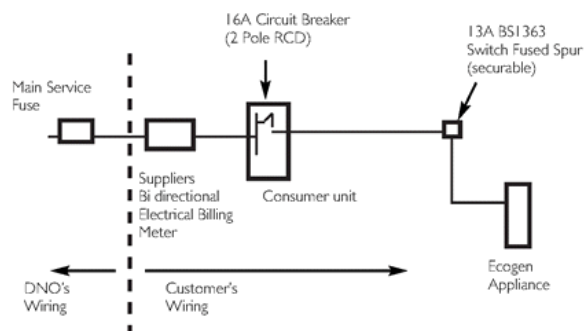
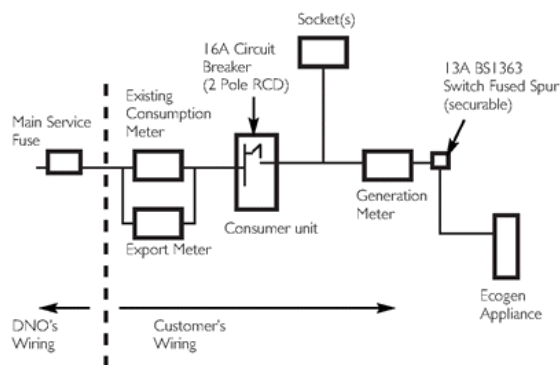

Fig. 13
Fig. 13b
Connection by dedicated circuit (Fig. 13)
12. To enable the FIT to be claimed the electricity generated and exported must be monitored by meters installed into the electricity supply as shown in Figs. 13, 13a and 13b, for the export either bi-directional meters as in Figs. 13 and 13a, or by leaving the existing meter and adding an additional meter as in Fig. 13b. An extra meter must be added just before the appliance to measure the electrical generation. The serial number must be submitted for MCS submission and recorded in both the DNO leaflet and the Micro CHP system commissioning checklist benchmark sheets at the back of these instructions.